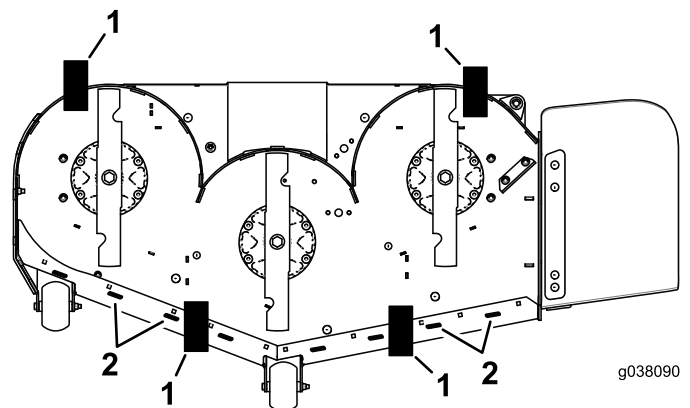

Figure 85
11. Place 2 blocks (see Block Height and Rake Table) under the rear edge of the cutting deck skirt; 1 on each side of the cutting deck (Figure 85).